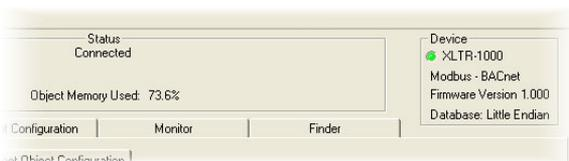

Figure 5: Connected Status
3. Confirm that the status should now be “Connected”, and the on-board firmware information should be displayed in the “Device” group (Figure 5).